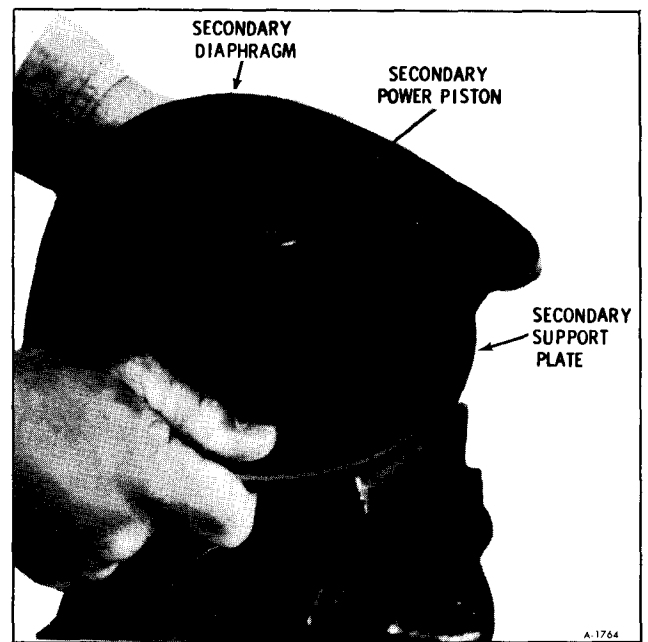

Figure 40—Removing Secondary Diaphragm
14. The secondary power piston should still be positioned on Tool J-23101. Fold back secondary diaphragm from O.D. of secondary support plate. Grip the edges of the support plate and rotate clockwise to unlock the secondary support plate from the secondary power piston. (figure 40).
22. Grip the edges of the secondary support plate, press down, and rotate counterclockwise until the tabs on the secondary power piston contact the stops on the support plate. (figure 40) Fold the secondary diaphragm back into position on the secondary support plate. Leave the secondary power piston assembly on Tool J-23101 in the vise.